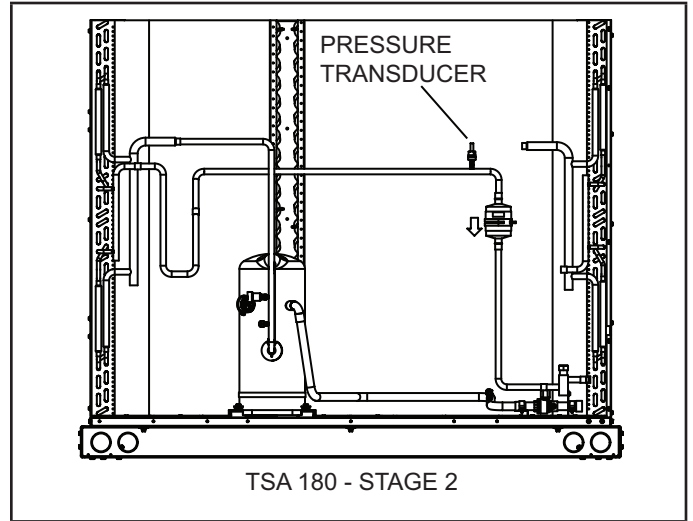
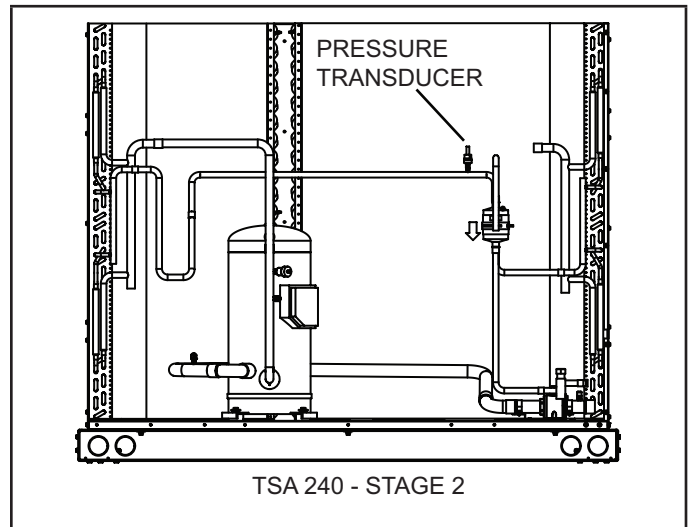

FIGURE 4. Pressure Transducer Location – TSA 180 Stage 2
FIGURE 5. Pressure Transducer Location – TSA 240 Stage 2
- 8 - Repeat steps 4 through 7 to install the pressure transducer to the stage 2 liquid line. (For TSA 180, refer to figure 4; for TSA 240, refer to figure 5.)